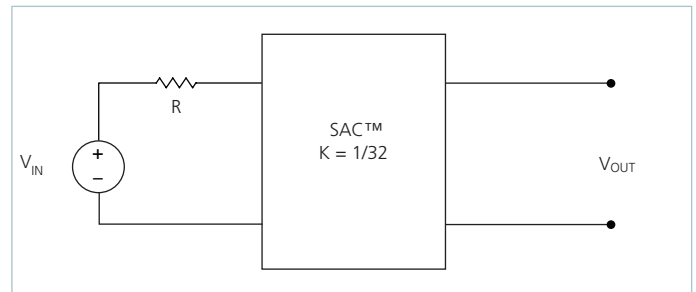

Figure 18 — K = 1/32 Sine Amplitude Converter™ with series input resistor
The use of DC voltage transformation provides additional interesting attributes. Assuming that ROUT = 0Ω and IQ = 0A, Eq. (3) now becomes Eq. (1) and is essentially load independent, resistor R is now placed in series with VIN as shown in Figure 18.